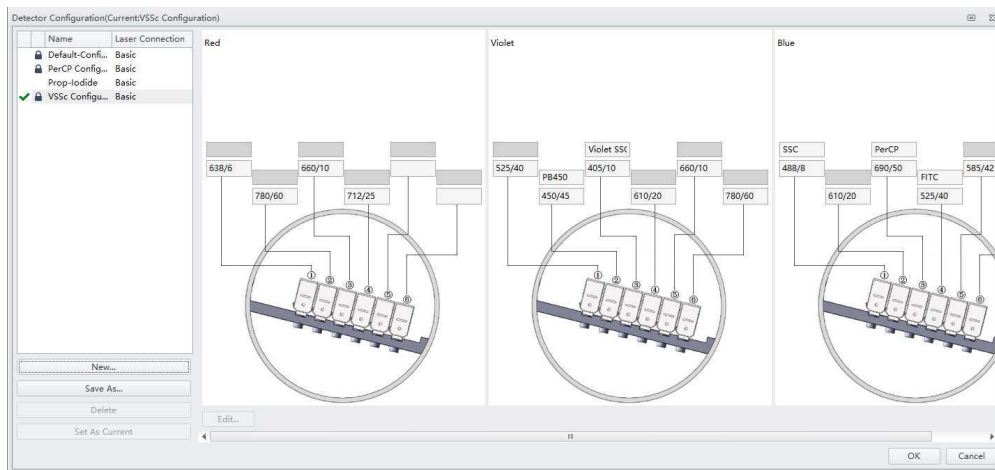

Figure 1. Detector configuration setup for the CytoFLEX Flow Cytometer used to establish this protocol.
*Settings can be adjusted in real time by selecting "run" on samples and changing the acquisition settings. The full CytoFLEX configuration of which this protocol is based off of is pictured below (**Figure 1**) for full repeatability.*